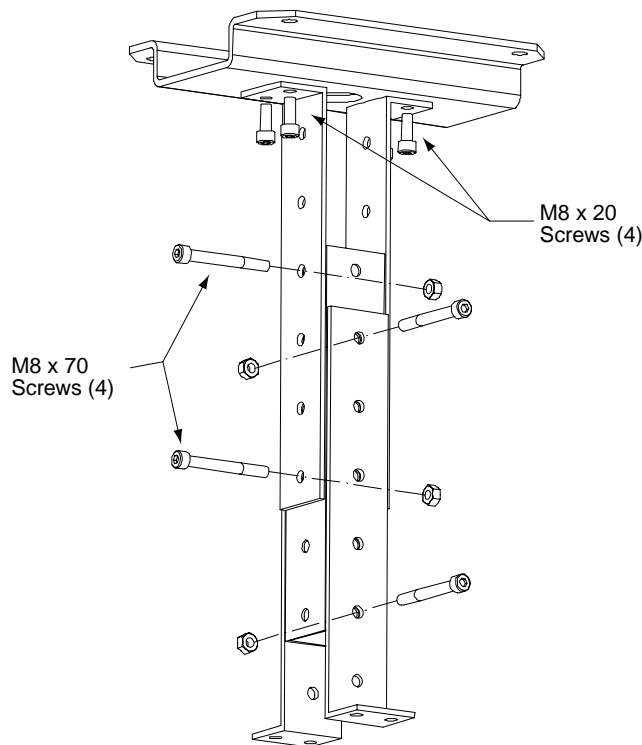

Figure 1
- ① Use the ceiling plate to mark out four holes for the ceiling bolts. Drill holes ($\frac{3}{8}$ " (see diagram on back page for dimensions).
- ② **For standard ceilings go to step 3.** For suspended or high structural ceilings, determine required height and assemble extension column (See Fig. 1).
- ③ If ceiling plate will be visible, a plastic lid is provided to hide plate. Slide plastic lid onto extension column.
- ④ Connect standard column or extension column to ceiling plate (see Fig. 1).